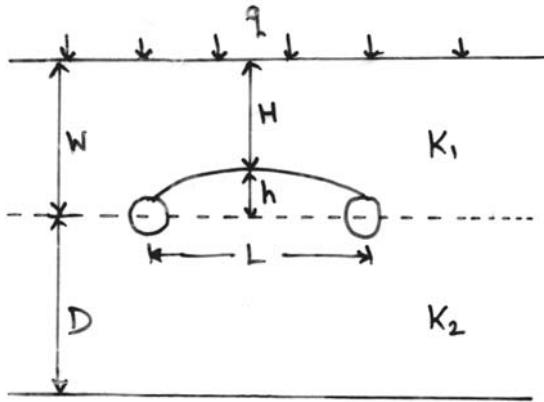

Fig. 7 (b)
b) Determine the required drain spacing for the basic design criteria  $q = 8 \text{ mm/d}$ ,  $H = 0.6 \text{ m}$ , pipe with outer diameter =  $0.2 \text{ m}$  and wet entry perimeter ( $u$ ) =  $0.3 \text{ m}$ .  $K_1 = 2.1 \text{ m/day}$ ,  $K_2 = 1.1 \text{ m/day}$ .  $W = 1\text{m}$ ,  $D = 3 \text{ m}$ . Refer Fig. 7 (b). Use Hooghoudt's formula. Take only two trials. [9]